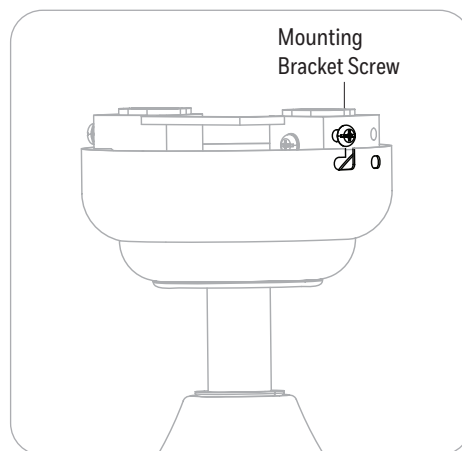

Figure 4.2
2. Align the canopy over the loosened mounting bracket screws. Place the L-slot of the canopy onto the mount bracket screws and rotate counterclockwise (Figure 4.2).